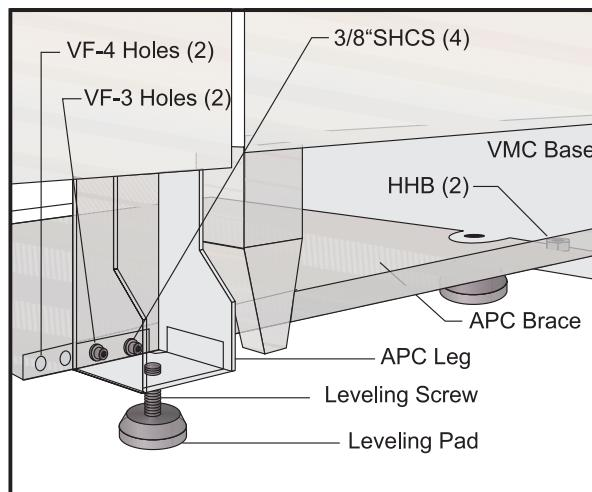

Figure 2.6 Installing the APC brace (VF-3 shown).
11. Attach the APC brace to the VMC and the APC with six screws (four 3/8" screws in the APC legs and two 1" screws in the VMC base), but DO NOT TIGHTEN (see Figure 2.6). The VF-3 uses the two holes in the brace that are closest to the VMC, while the VF-4 uses the two holes farthest from the VMC.
15. Tighten down the four 3/8 SHCS and two hex-head bolts (see Figure 2.6) on the APC brace **evenly**, so the APC is not pulled out of alignment. Recheck the level and all alignments.